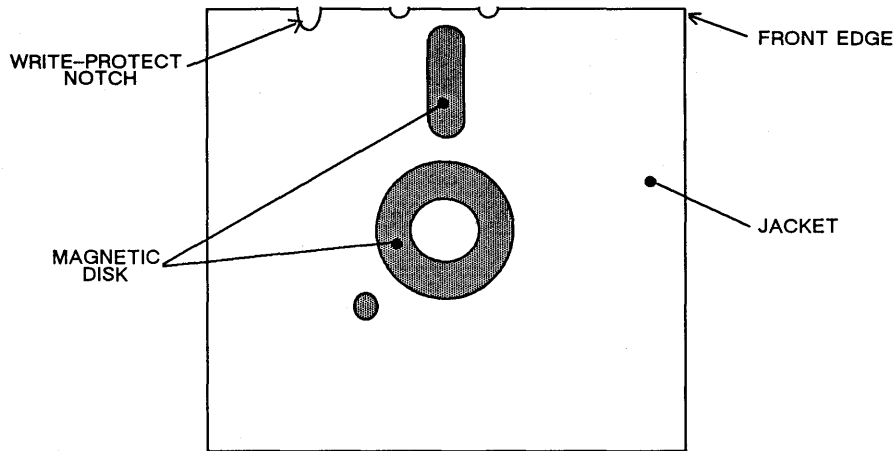

Figure 2-2. A Typical Floppy Disk
If your node has a floppy disk drive, you can use it to read files from floppy disks or write files to floppy disks. Floppy disks are useful for transferring files between nodes that are not in the same network, for making backup copies of files, and for storing little-used files. Figure 2-2 illustrates the top of a typical floppy disk.
8. Remove the floppy from the disk drive. If you have a lever-type drive, turn the bar back up and the floppy will pop out. If you have a latch-type drive, lift up on the bottom half of the latch until you hear a click, then release the latch, and the floppy will pop out. Put the floppy back into its envelope, front edge first (see Figure 2-2). Make sure you label the floppy with at least its volume entry directory name. LEAVE THE LEVER OR LATCH OPEN WHEN THE FLOPPY DRIVE IS NOT IN USE.